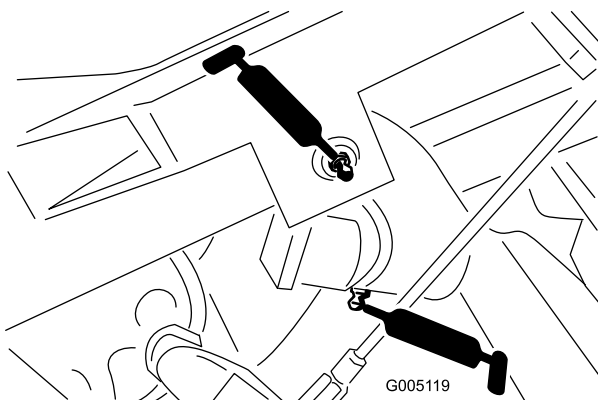

Figure 27
- Lift arm pivot (3) and pivot hinge (3) (Figure 27)